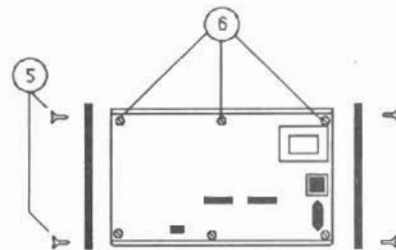

Figure 2 - Rear view of indicator chassis showing removal of end panels and back panel retaining screws.
Refer to Figure 2. As viewed from the rear, remove the two screws (5) from the left end panel. **For calibration only, remove the left end panel.** For complete disassembly, remove both end panels, then remove the six screws (6) securing the back panel to the indicator chassis.